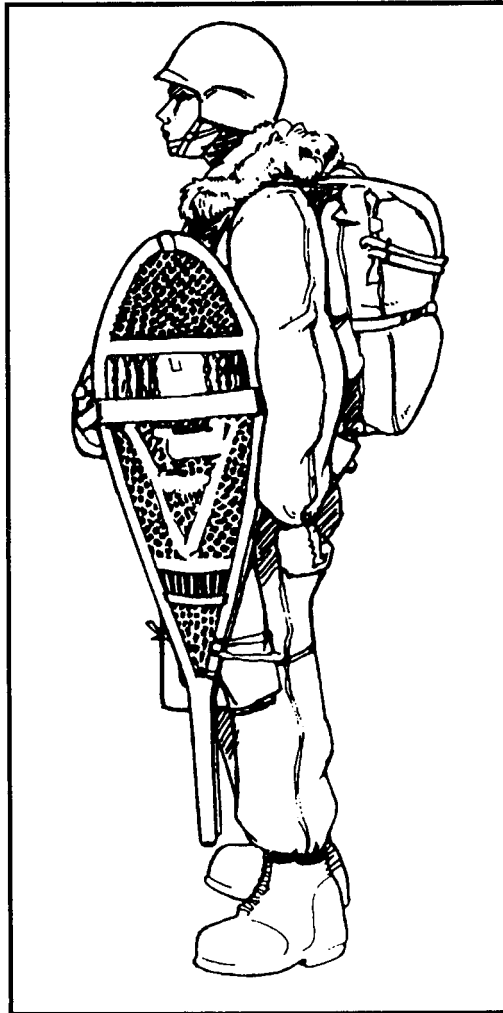

Figure 13-9. Left side view with weapon case.
c. The stowed lowering line is secured with two retainer bands to the left (right) side of the vertical bar of the combat pack. After the pack, snowshoes, and rifle are attached to the parachutist, the lowering line ejector snap is passed through the rifle sling and attached to the accessory attaching ring of the adapter web. If the adapter web is not used, the ejector snap is attached directly to the D-ring on the harness. If the weapons case is attached to the snowshoes (Figure 13-9), the lowering line ejector snap is passed between the case and the cotton chafe material, which is attached to the case V-ring.